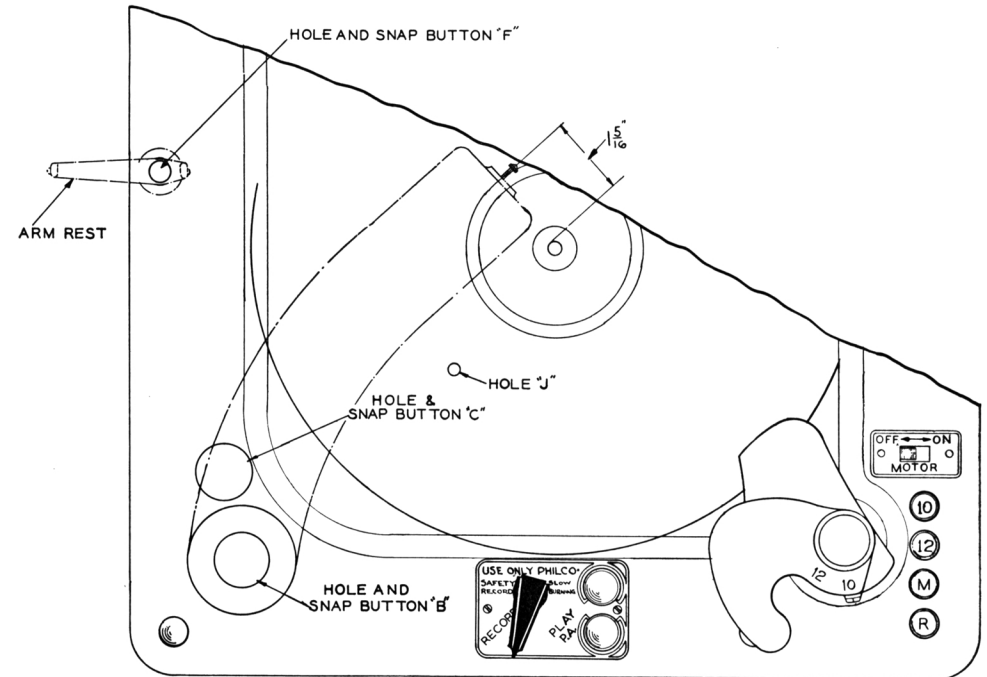

FIGURE 2
3. Remove snap plugs B and C (FIGURE 2).
7. Remove turntable and insert screw through hole J in record changer base plate (see FIGURE 2).